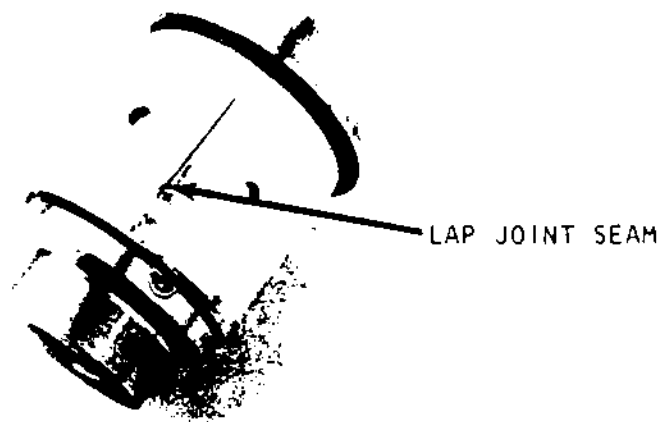

FIGURE 5
5. The pump end bearing insert can be reinstalled by using the bearing driver, push rod and utility bar. The insert must be pressed in from the motor suction side. The bearing insert should be placed over the bearing driver as shown in Figure 5, with the lap joint seam in the 12 o'clock position when installed in the compressor housing.